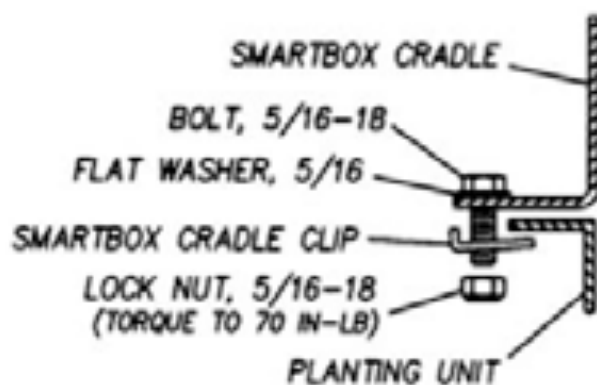

Figure 5b
6. If cotter pins do not hold cradle securely in place, use SmartBox[®] cradle clips as a spacer between the frame and pins; or secure the cradle to the frame and pins; or secure the cradle to the frame using the SmartBox[®] cradle clips and fasteners as shown (see figure 5b).